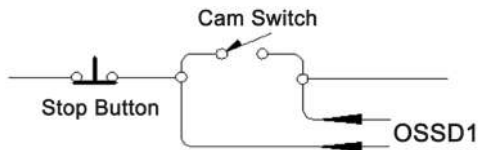

Fig3.3 The muting function is realized by OSSD
2. If the muting function is realized with the help of AOPD, connect one pair of normal open contact points of cam switch with NO contacts in-parallel, as shown in Fig3.3.